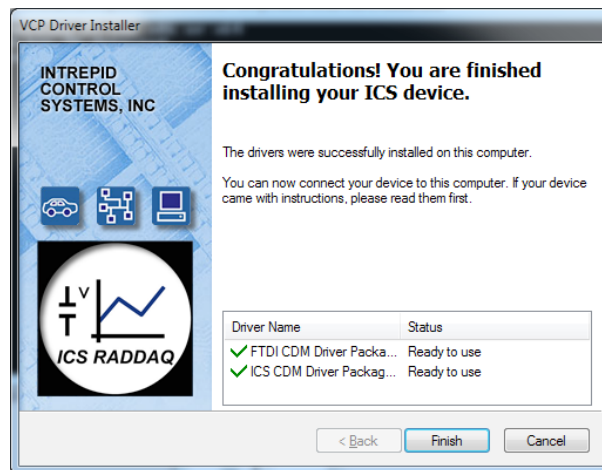

Figure 39: Hardware Driver Installation Complete.
9. **Install Hardware Drivers:** Click **Next >** to begin installing the first set of drivers. When completed, a message will appear like the one in Figure 39. Click **Finish**.